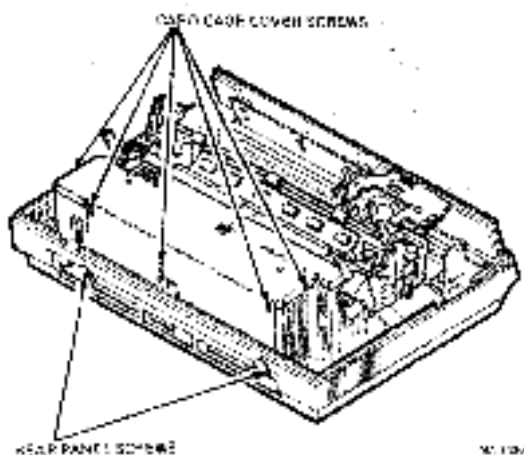

Figure 2-6 Card Cage Cover Removal
2. Loosen the two rear panel screws and five card cage cover screws (Figure 2-6).
3. Remove card cage cover by lifting it up and out. Allow the large holes in the cover to clear the screw heads (Figure 2-6).
3. Loosen the two rear panel screws and five card cage cover screws (Figure 2-6).
4. Remove card cage cover by lifting it up and out. Allow the large holes in the cover to clear the screw heads (Figure 2-6).